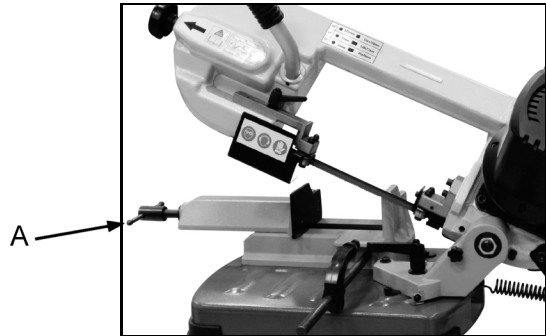

Fig. 2
1. Turn the handle (A) in Fig.2 counter clock-wise to open the vise jaw allowing the width of vise to load work piece.
2. Make sure the work piece is placed properly between the jaws. Turn the handle (A) in Fig.2 clock-wise to close the vise jaw clamping the work piece.